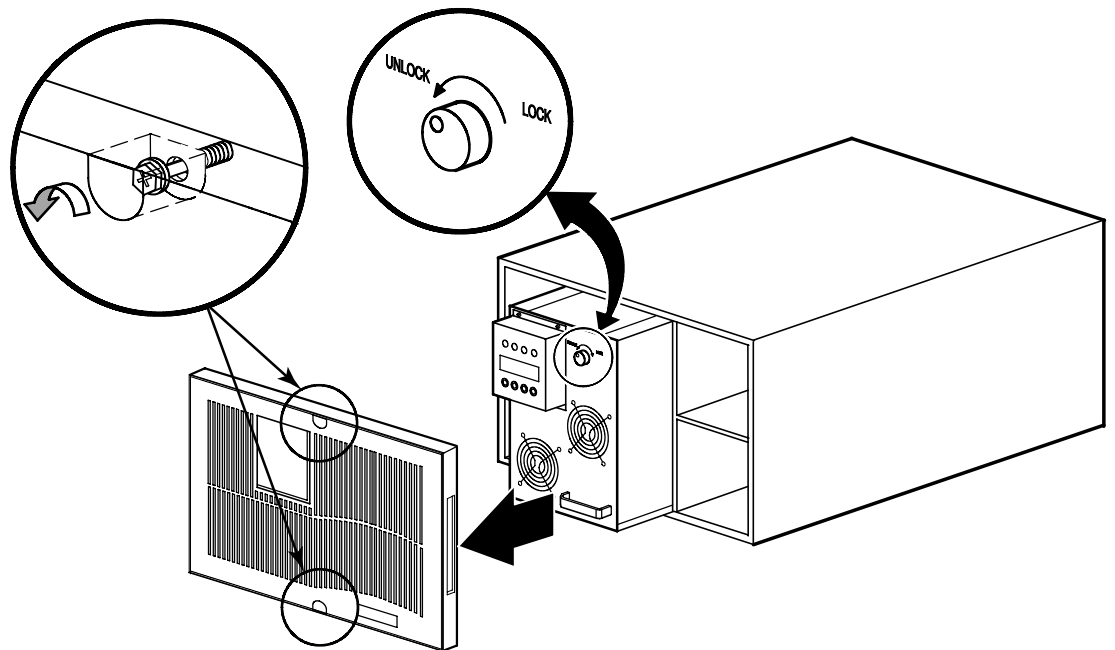

Figure 3. Removing the UPS Front Cover and Electronics Module
6. Remove the UPS front cover and the electronics module and set them aside (see Figure 3):